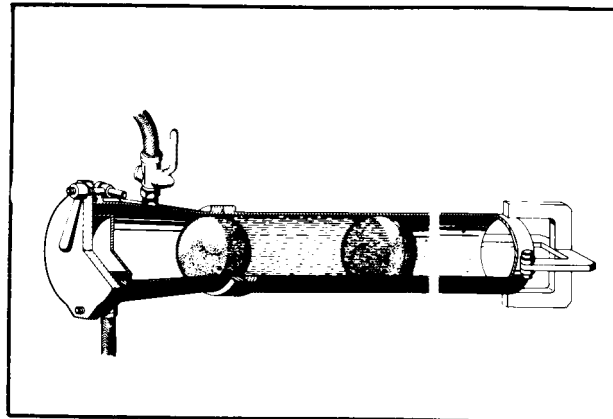

Fig.: 13
- To do this, press a soft sponge rubber ball about 1 m into the delivery tube (Fig.: 13).